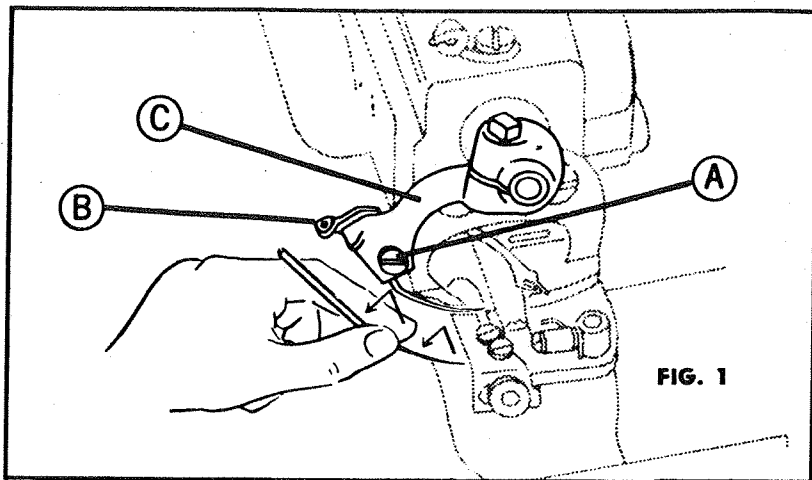

FIG. 1
1. Loosen screw (A) about $2\frac{1}{2}$ turns until Needle Clamp (B) is loosened from Needle Lever (C) and Needle is free. (Fig. 1)
2. Hold Needle with left hand thumb and index finger, remove by moving away from you and to the left (Fig. 1). It should come out effortlessly. DO NOT FORCE.